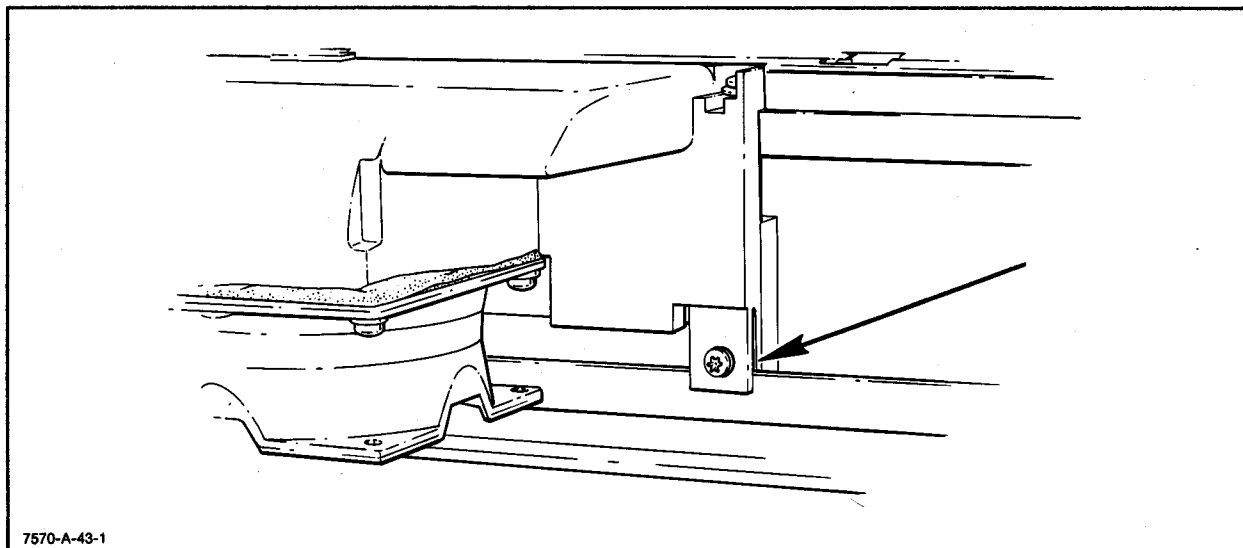

Figure 6-44. Fan and Transformer Module Installation
- i. Loosen the 2 screws clamping the module to the lip of the datum bar. See Figure 6-44.
- a. Place the module in position on the datum bar. Assure that the notches at the lower edge of the module are over the lip of the datum bar. See Figure 6-44.
- c. Tighten the 2 module clamping screws. See Figure 6-44.